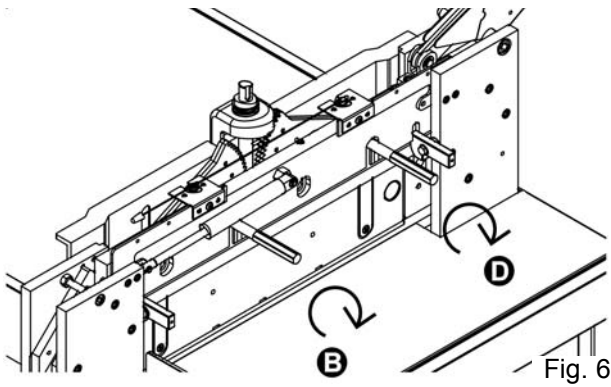

Fig. 6
- (13) Insert the blade holders into the opened second and fourth hole (B) and (D) of the blade carrier and fasten securely. (Fig. 6)
- (14) Lower the blade lever to its horizontal position.